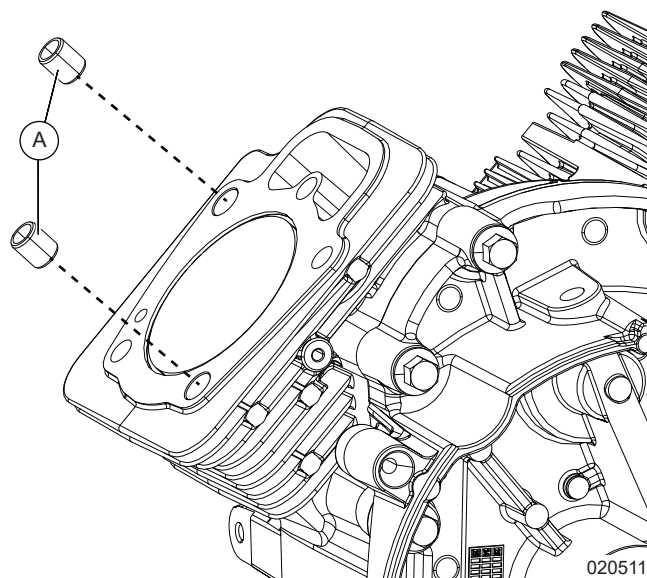

Figure 12-3. Install Cylinder Head Dowels into Crankcase
1. See Figure 12-3. Install cylinder head bolt dowels (A) into cylinder head assembly.